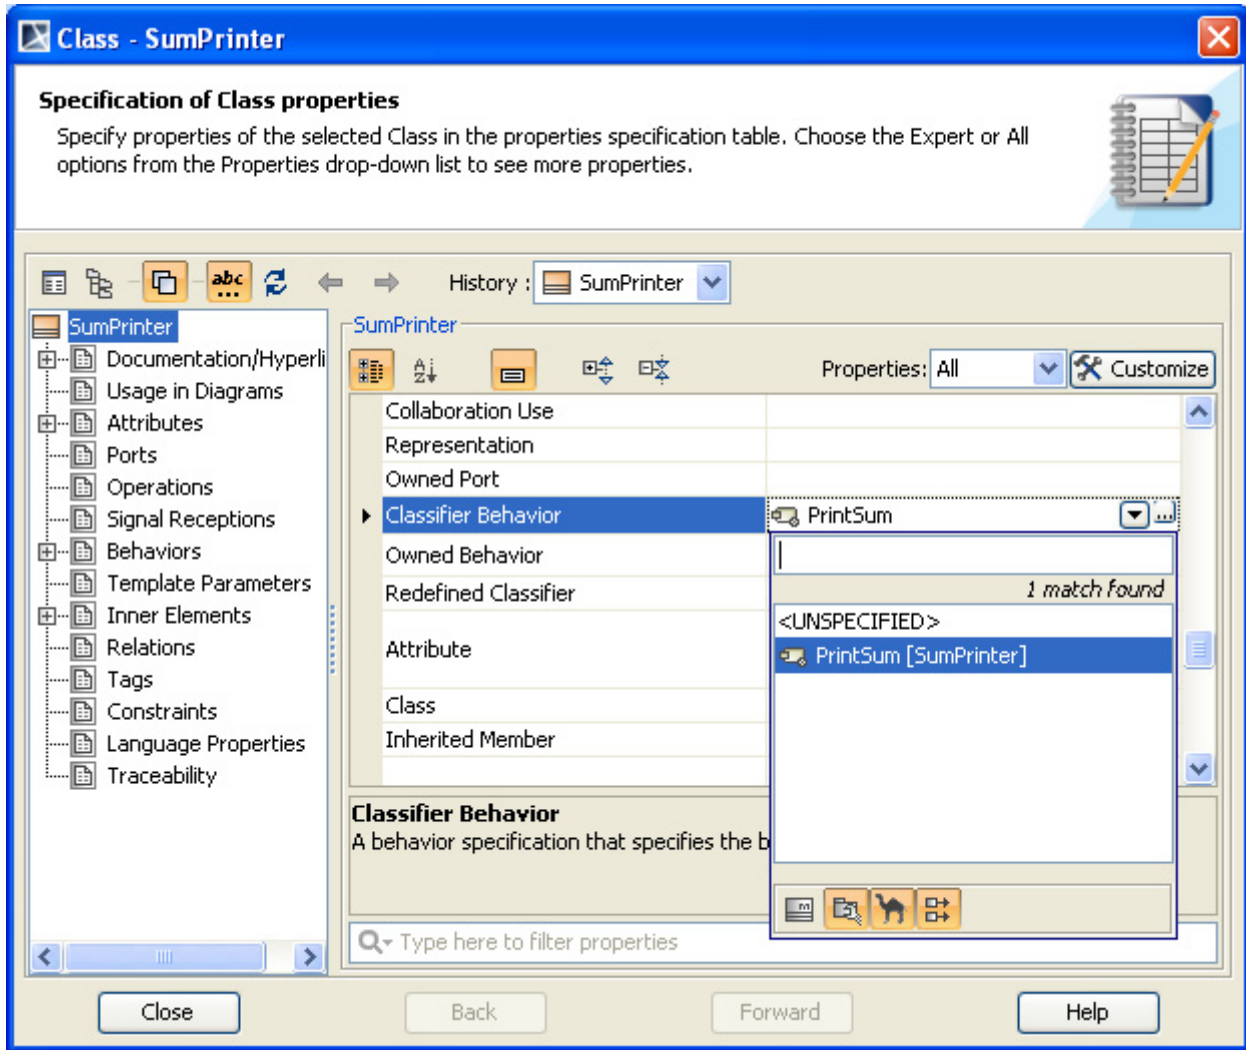

Figure 47 -- Assigning the Classifier Behavior of **SumPrinter**
1. Right-click the **SumPrinter** class in the containment browser and select **Specification** to open its **Specification** dialog (Figure 47).